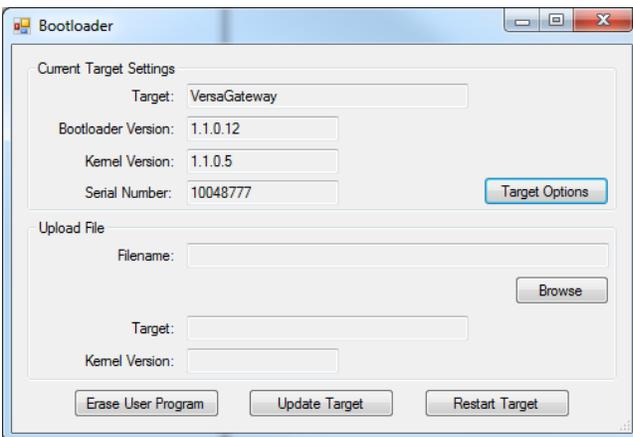

Figure 2-27 - Bootloader Screen
7. Using the menu, click **PROJECT** then **BOOTLOADER**. You may see a window momentarily while EZ LADDER connects to the VersaGateway device bootloader. See Figure 2-27.